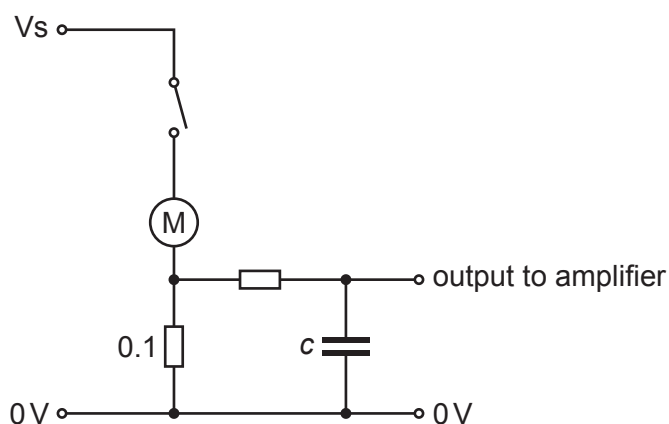

Fig. 1.4
Fig. 1.4 shows part of the circuit diagram for the new electronic system.
- (iii) Component **c** in **Fig. 1.4** is a capacitor.
- (iv) The output voltage signal from the circuit in **Fig. 1.4** is fed into an amplifier subsystem with a voltage gain of 4.